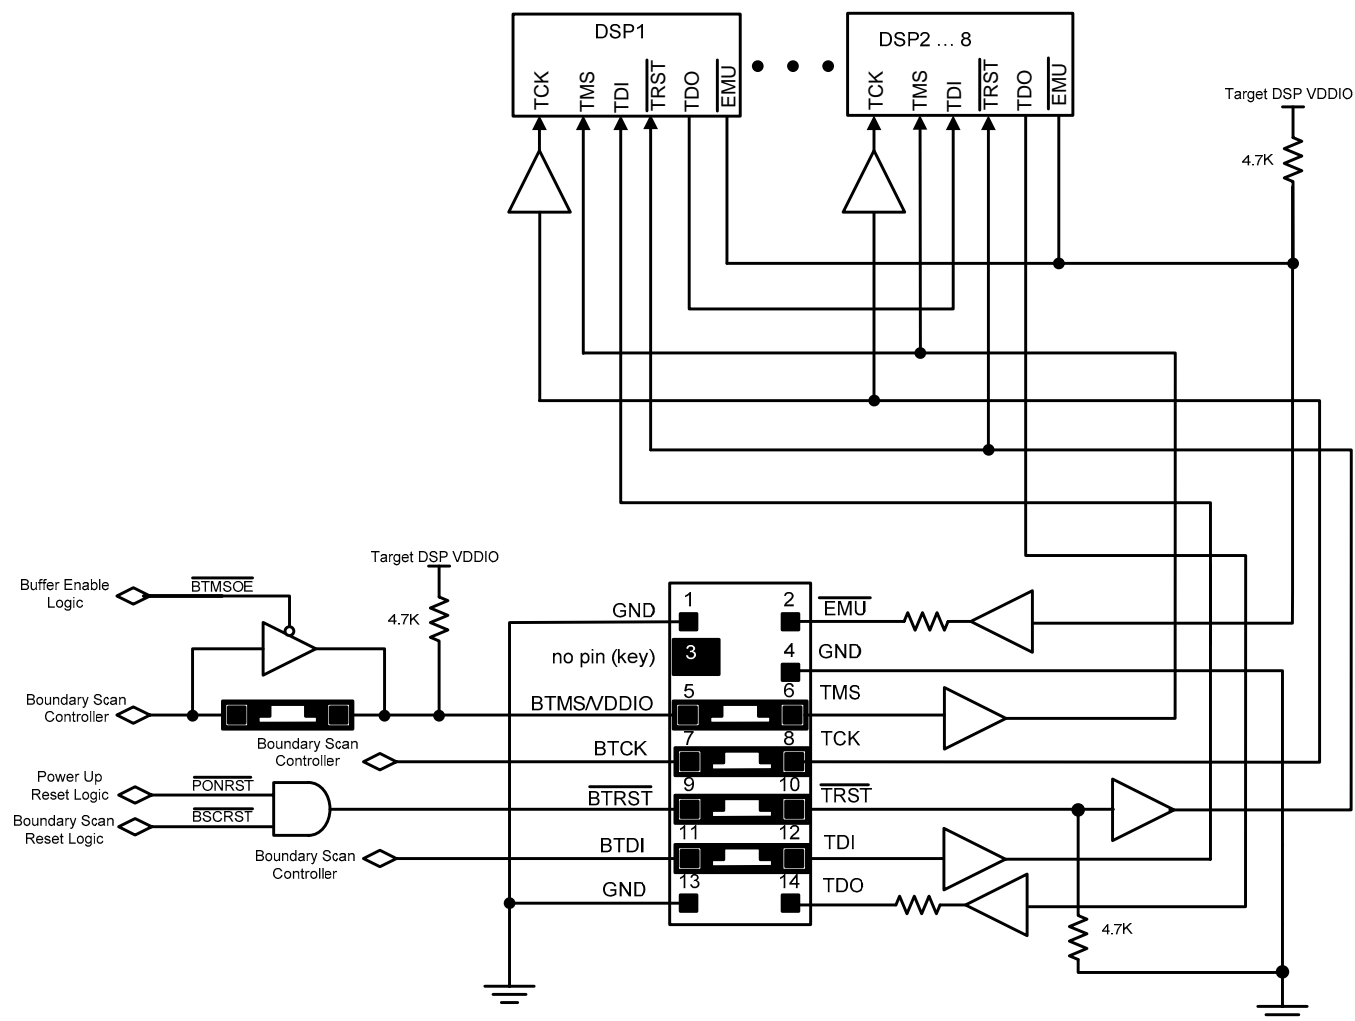

Figure 9. Multiple DSP target with a local boundary scan controller
Multiple DSP targets *with* local boundary scan controller logic should connect the local boundary scan signal pins to the JTAG emulator header pins shown in Figure 9.
If your target has an optional local boundary scan controller, and you attach a HPPCI JTAG emulator, you will need to isolate the BTMS signal from the BTMS/VDDIO voltage pin before starting the emulator software. Referring to Figure 9 during JTAG emulation, you can isolate pin 5 on the HPPCI JTAG emulator header from the local boundary scan controller logic using a jumper or three-state buffer.
DSP JTAG emulation signals. The local boundary scan signals include BTMS, BTCK, BTDI, and BTRST~. DSP JTAG emulation signals TMS, TCK, TDI, and TRST~ connect to local boundary scan signals using jumpers on the JTAG emulator header shown in Figure 9.
TRST~ must be pulsed low at power-up when using a local boundary scan controller, and should be kept low when the local boundary scan controller and the JTAG emulator are not being used. Figure 9 shows how TRST~ should be controlled when the target uses a local boundary scan controller.
The 4.7-K Ω pull-down resistor on TRST~ shown in Figure 9 should not be used for targets that have a local boundary scan controller and **do not** drive TRST~. The DSP JTAG TAP will be kept constantly in reset when using a pull-down resistor if it cannot be overdriven.
As shown in Figure 9, targets with more than one DSP in the scan path, which **do** use a local boundary scan controller, require buffering. Figure 9 shows the connections between the JTAG emulator header and buffers for a multiple DSP target *with* a local boundary scan controller.
**Figure 9** shows series terminating resistors for the TDO and EMU~ signals going to the JTAG emulator. These resistors are optional. Use terminators if the TDO or EMU~ routes between the buffers and the JTAG emulator header are longer than 6 inches.